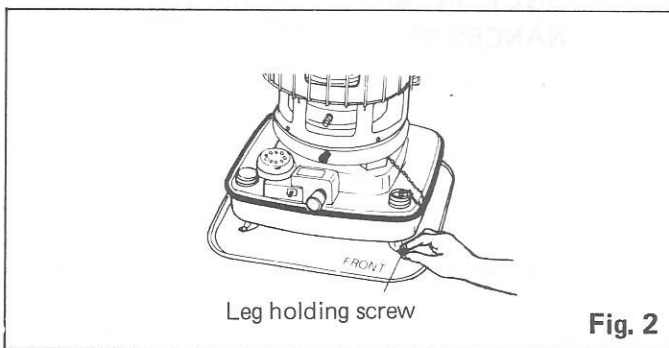

Fig. 2
1. Remove the screw attached to the base. Place the heater on the base, matching the front of the heater to the front of the base. Insert the legs into the fitting on the base, align the hole of the leg and fitting, and secure it with the screw. (Fig. 2)